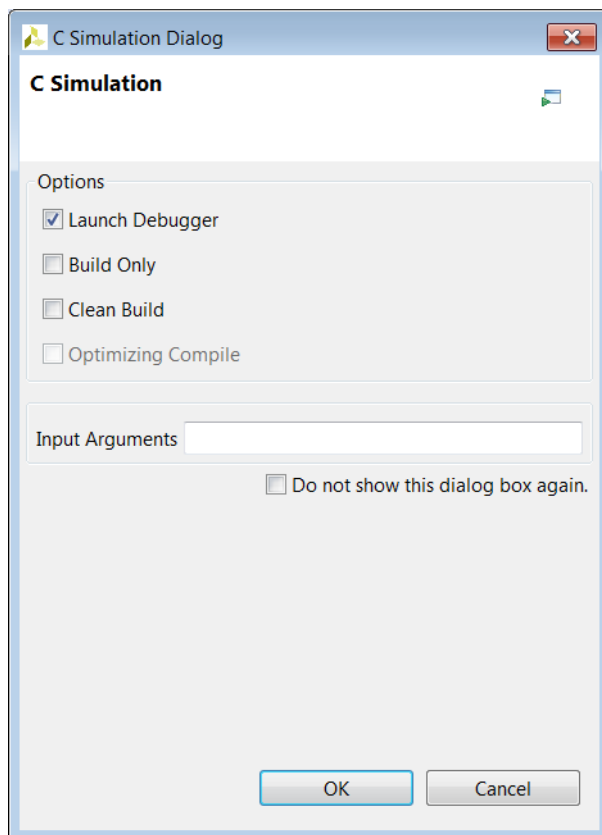

Figure 3-6: C Simulation Dialog Box
2. Select the **Launch Debugger** option as shown in Figure 3-6.